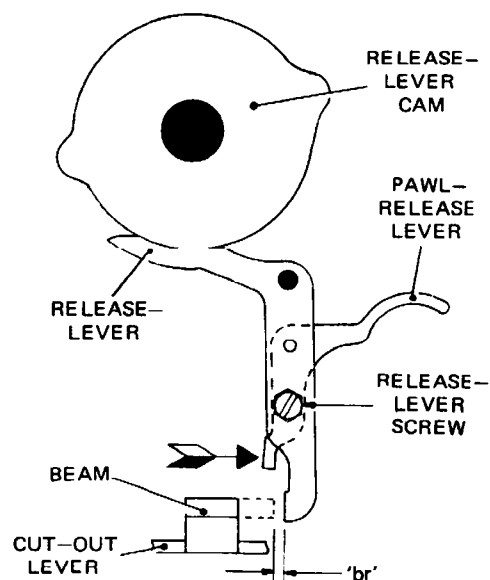

Fig. 4.74 MOTOR CONTROL SWITCH – RATCHET RELEASE
- 83.2 Trip the main clutch and with the use of box spanner TA 1559 turn the camshaft until the lobe on the release-lever cam, Fig. 4.74, causes the drive and driven pawls to be lifted clear of the ratchet wheels. Check that the clearance is 0.010–0.020 inch.
- 83.3 Set the camshaft to the rest position, set the motor switch to the off condition as explained in check 82.1 above, and check that there is a gap of at least 0.004 inch (dimension 'br' of Fig. 4.74) between the beam and the tail of the release lever.
- 83.6 If any of the foregoing checks is not satisfied, set the machine to the rest condition and loosen the release-lever screw so that the lever is friction tight. Set the motor switch to the off condition as explained in check 82.1, and turn the ratchet wheel until the drive pawl drops into a deep notch. Hold the drive pawl in the deep notch and the drive lever against the root of its cam. Push the pawl-release lever at the point indicated by the arrow (Fig. 4.74) until resistance is felt. Carefully separate the release lever from its cam for a gap of at least 0.004 inch.